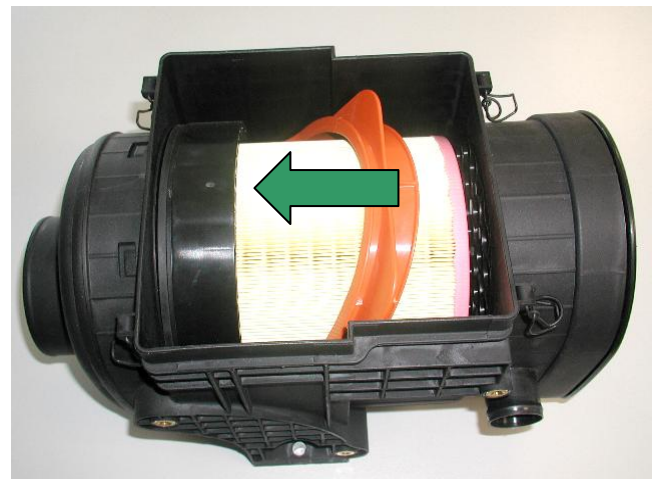

Fig. 4 Unlocking the main filter element frame
- Move the red clamping bar towards "Unlock" (refer to Fig. 4).